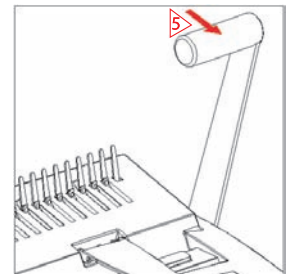

Figure-12
- ▶ Push down the **handle** to finish the punching as shown figure-12. Remove the punched document.